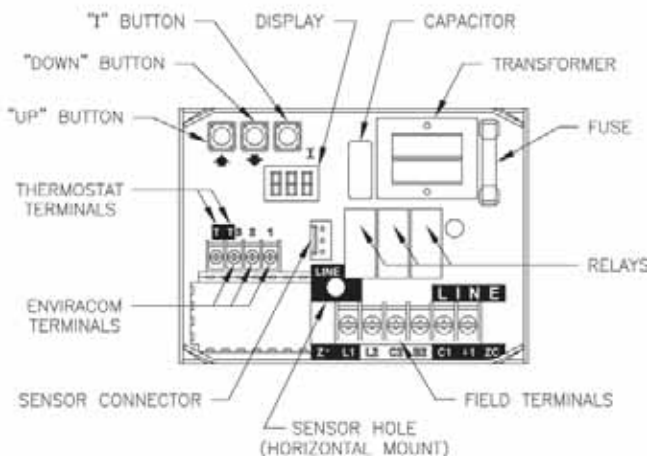

Figure 37: L7248 Circuit Board Layout - Horizontal Mount
2. PRESS RED RESET BUTTON on front of burner cover (Beckett, Riello burners), hold button for one (1) second and release to reset primary control.
3. On WATER BOILERS WITHOUT TANKLESS HEATERS equipped with L7248 electronic aquastat controller, set High Limit (HL) at 180°F. This temperature can be varied to suit installation requirements. L7248 controller has the High Limit adjustment range from 180°F to 240°F (82°C to 116°C). High Limit Differential is fixed at 15°F (8°C).
4. ADJUSTING AQUASTAT CONTROLLER SETTINGS. To discourage unauthorized changing of Aquastat settings, a procedure to enter the ADJUSTMENT mode is required. To enter the ADJUSTMENT mode, press the UP, DOWN, and I buttons (refer to Figure 37) simultaneously for three seconds. Press the I button until the feature requiring adjustment is displayed: